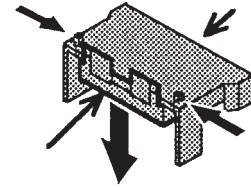

Fig. 1
- 2) Remove the covers by pushing the picks of sockets (as shown by Fig. 1).